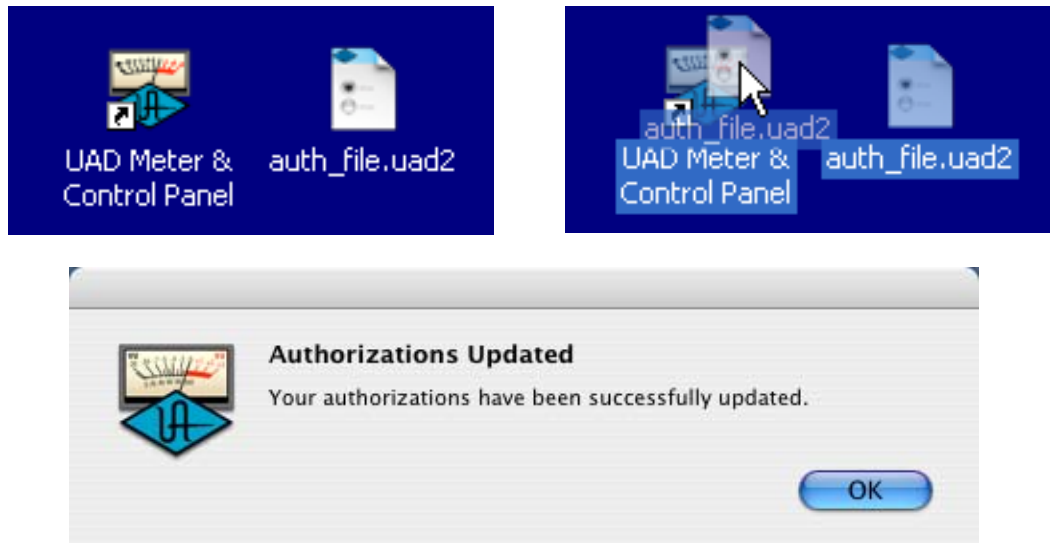

Figure 3. Drag-and-drop to load the UAD authorization file.
6. “Drag and drop” the authorization file onto any UAD Meter & Control Panel application icon/shortcut/alias. Drag and drop means click then hold the downloaded authorization file with the mouse, drag it on top of any UAD Meter & Control Panel application icon until the icon is highlighted, then release the mouse (see Figure 3 on page 29).
7. The authorization is loaded onto the UAD card(s) and after a few seconds the “Authorizations Updated Successfully” window appears (Figure 3).
9. “Drag and drop” the authorization file onto any UAD Meter & Control Panel application icon/shortcut/alias. Drag and drop means click then hold the downloaded authorization file with the mouse, drag it on top of any UAD Meter & Control Panel application icon until the icon is highlighted, then release the mouse (see Figure 3 on page 29).
10. The authorization is loaded onto the UAD card(s) and after a few seconds the “Authorizations Updated Successfully” window appears (Figure 3).